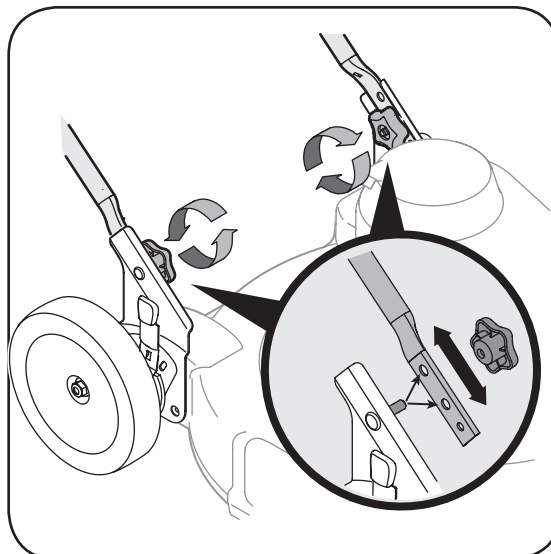

Figure 3-3
3. If satisfied with height of handle, tighten wing nuts at the ends of the lower handle shown in Figure 3-3. For convenience of operating, you may adjust the handle height as follows:
- a. Remove the wing nuts shown in Figure 3-3 and remove the lower handle.